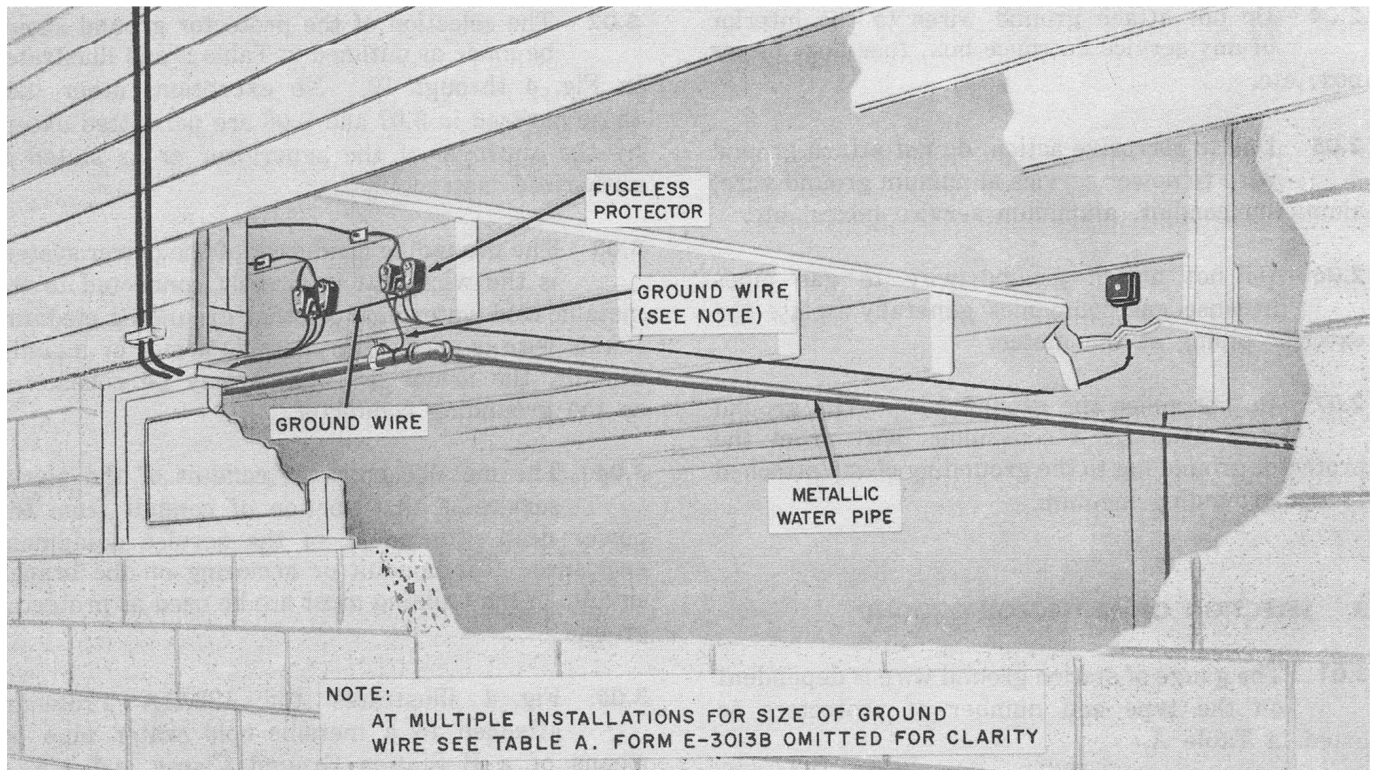

Fig. 2—Ground Wire Run—Fuseless Protector
1.09 Whenever possible, use a 72A or 90A Bracket to ground a fuseless protector. If a ground wire is necessary, the run should be short, straight, and if possible a continuous piece of wire, (Fig. 2).